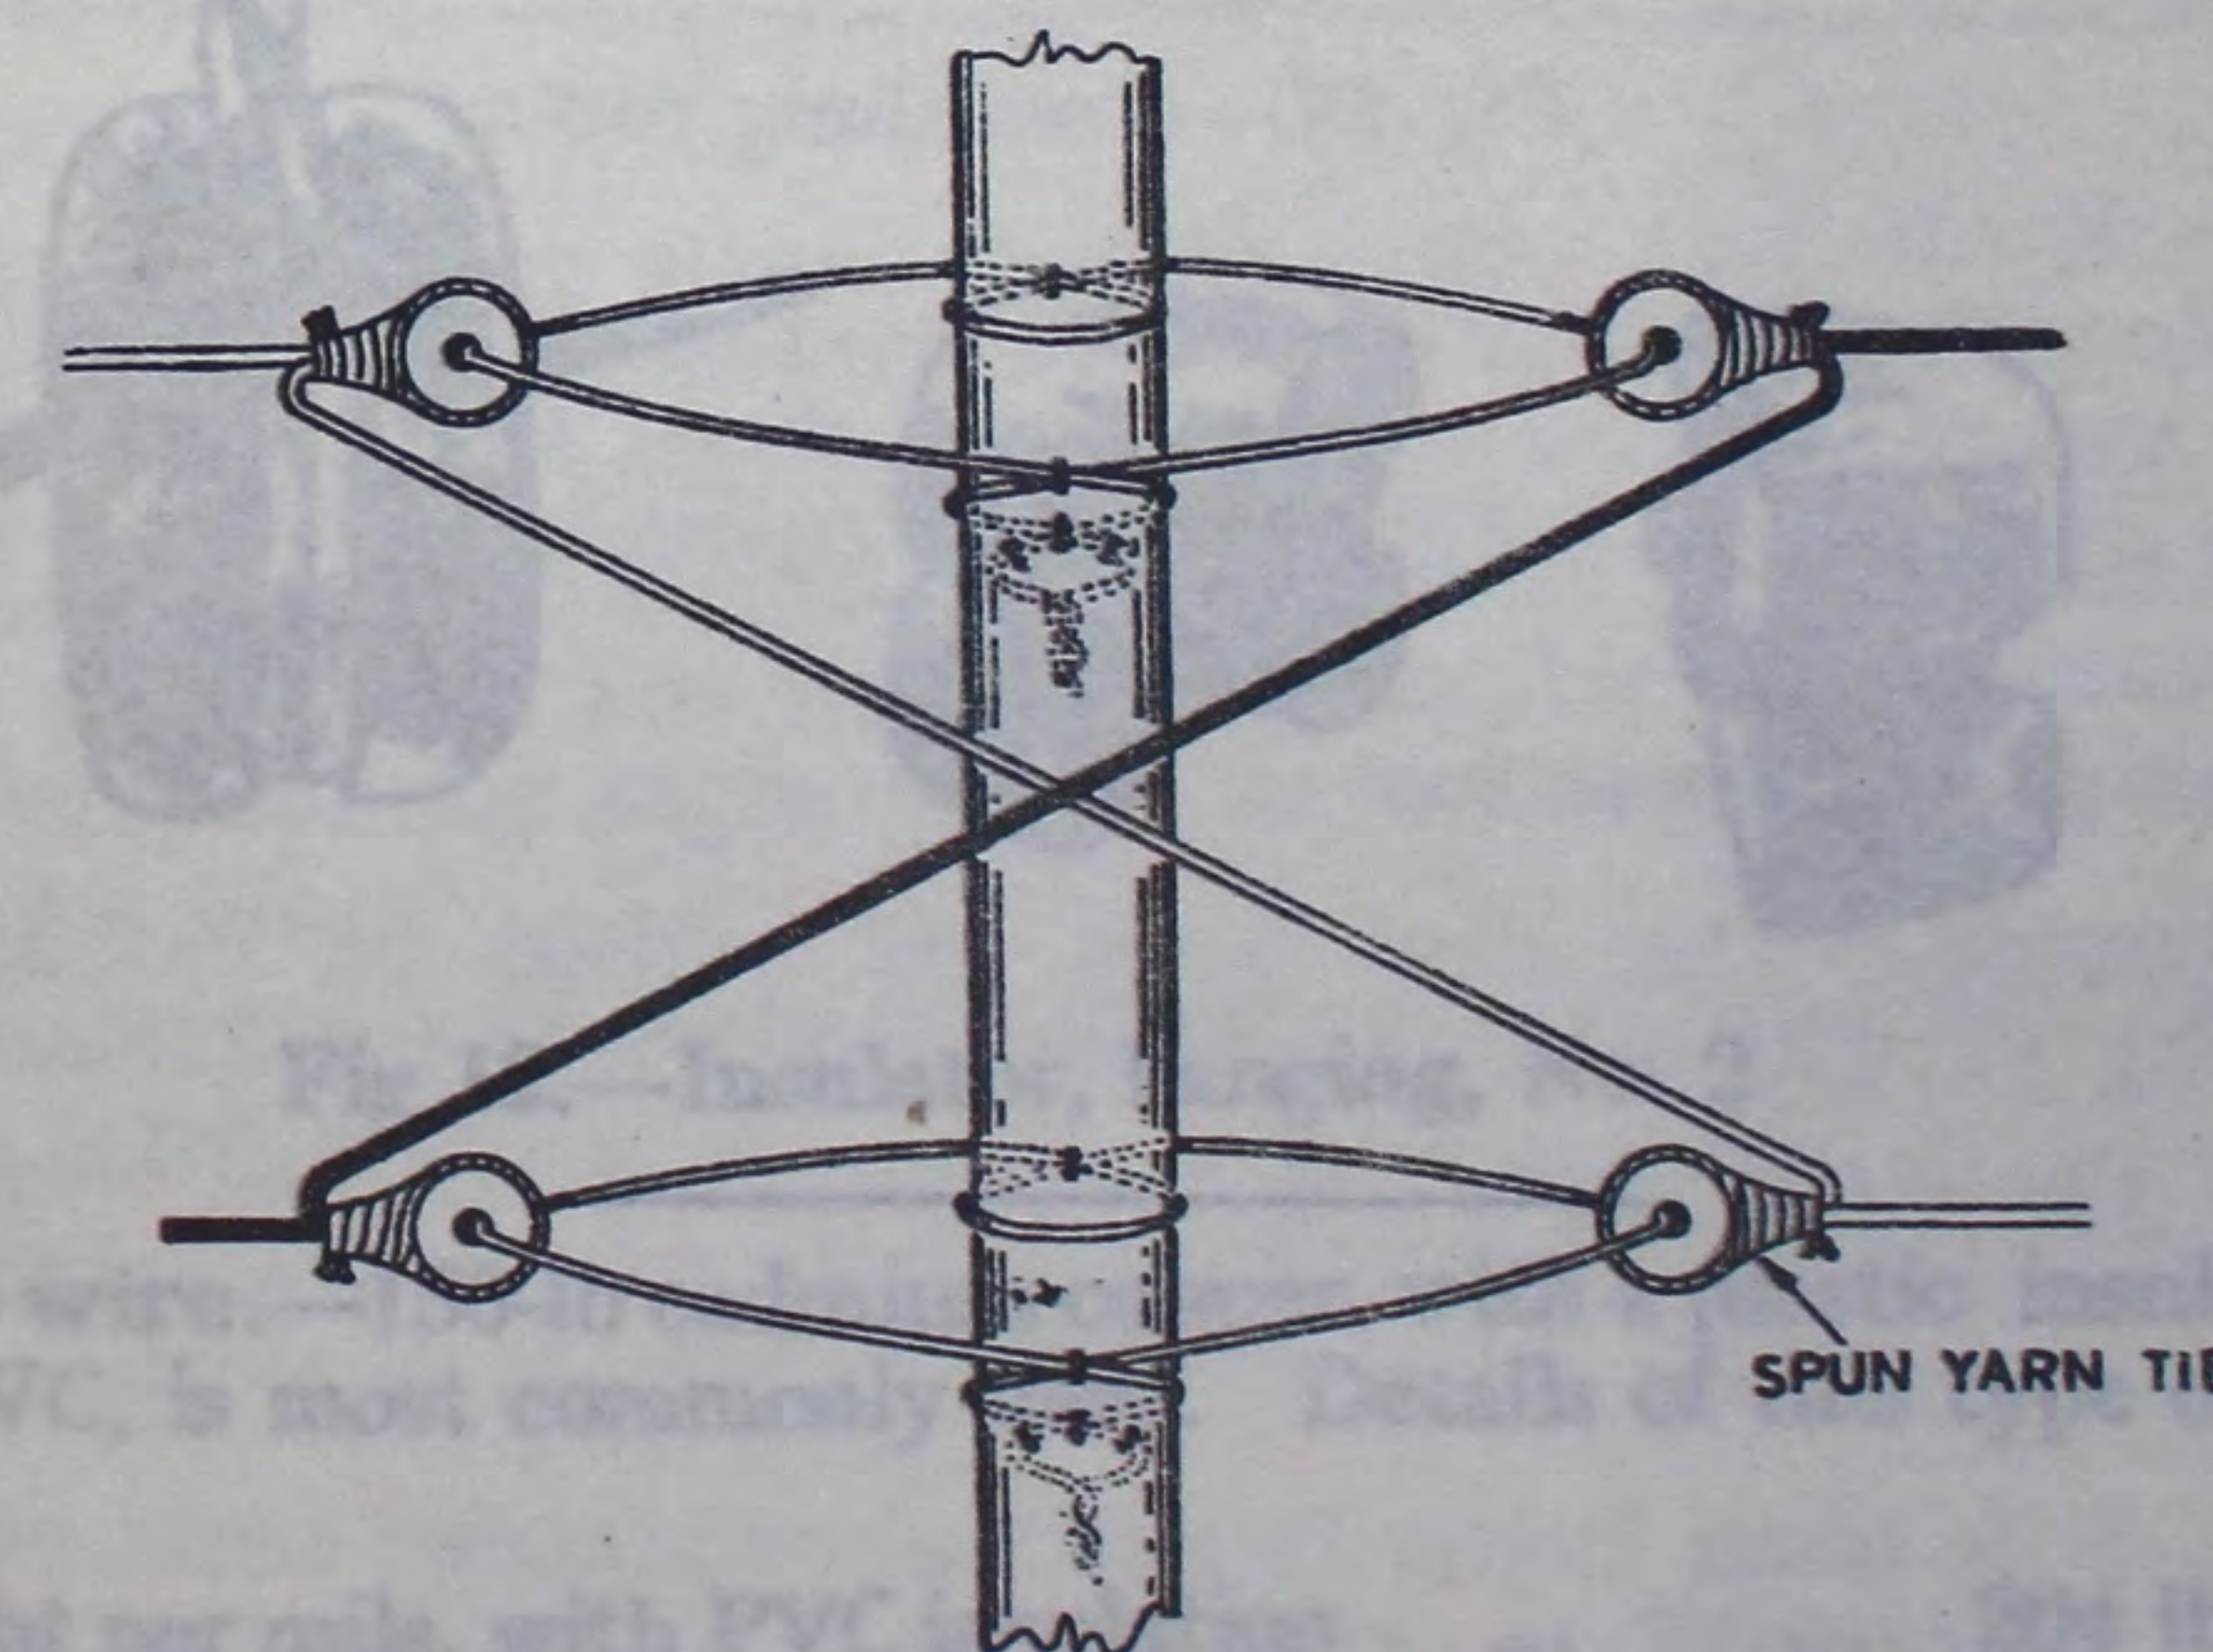

Fig 10.—Transposing spaced cable
- Assuming, in Fig 10, that the route runs from left to right place the top wire round the top left bobbin, and the bottom right bobbin, leaving the bridge of cable fairly slack.
4. **Terminations.**—Double terminations are made at the end of every 16 spans and at crossings, in the same way as shown in Fig 10, except that the wires do not cross. The same method is used for single terminations, at the ends of routes and at interruption points.